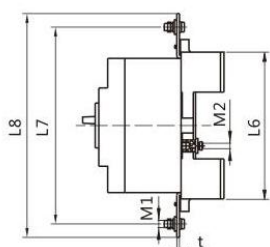

Figure 6 Plug-in back-panel wiring (3P)
1. The dimensions are shown in figure 3~figure 6 and the table
(3) Dimensions of plug-in type front connection see Figure 6